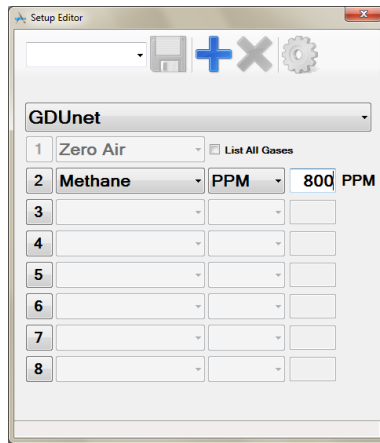

Fig. 6-8 Specify Gas Value
To enter this (800) value, highlight existing (0) value then type new value in window, as illustrated in Fig. 6-8.